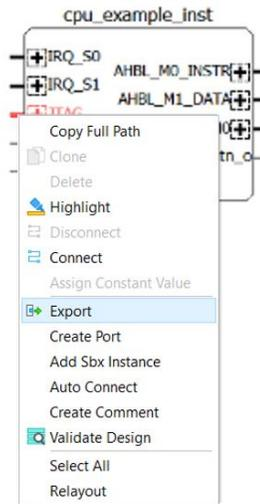

Figure B.1. Exporting Pins
2. After the IP is generated, right-click on the **JTAG** port and select **Export** (Figure B.1).